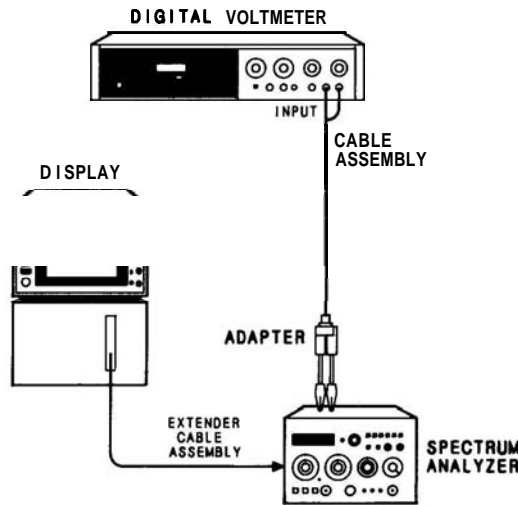

FIGURE 5-1. POWER SUPPLY CHECKS AND ADJUSTMENTS TEST SETUP
2. Connect equipment as shown in Figure 5-1. Install Frequency Control Assembly A7 on extender board and connect digital voltmeter to +14.5V test points A7TP3.